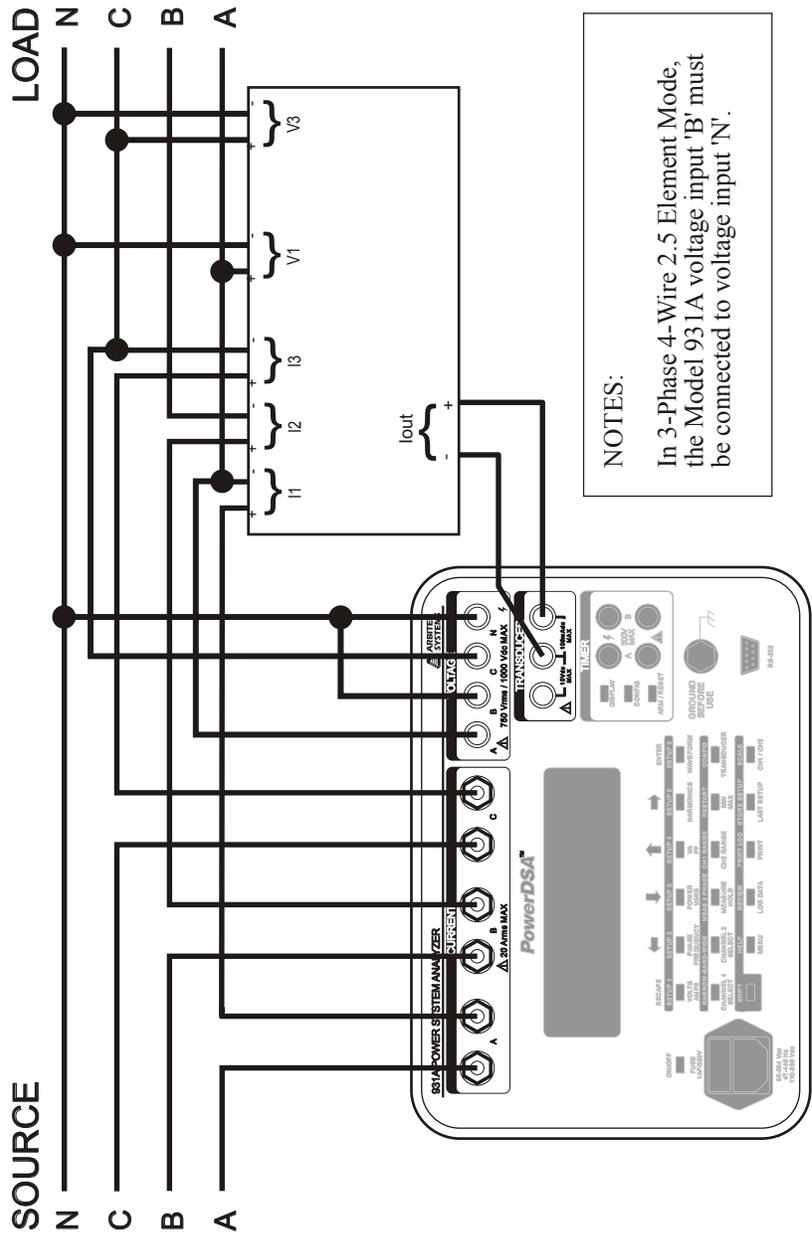

Figure 3.16: 3-Phase, 4-Wire, 2.5-Element Transducer Test
- **“3Ph 4Wire 2.5E”** sets the Model 931A to measure values on a 3-phase delta circuit, for comparison with a 2.5-element transducer. See Figure 3.16.